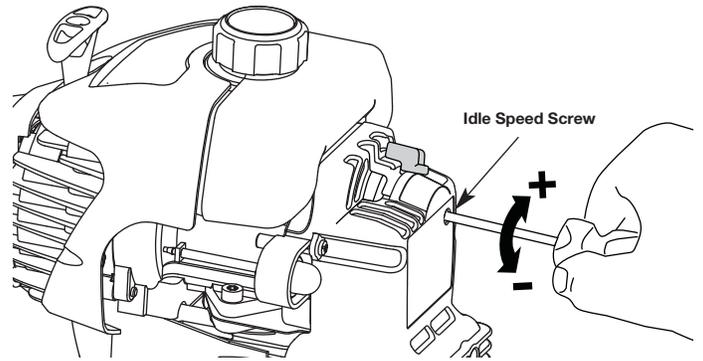

Fig. 37
The idle speed of the engine is adjustable through the air filter/muffler cover (Fig. 37).
2. Release the throttle trigger and let the engine idle. If the engine stops, insert a small phillips or flat blade screwdriver into the hole in the air filter/muffler cover (Fig. 37). Turn the idle speed screw in, **clockwise**, 1/8 of a turn at a time (as needed) until the engine idles smoothly.